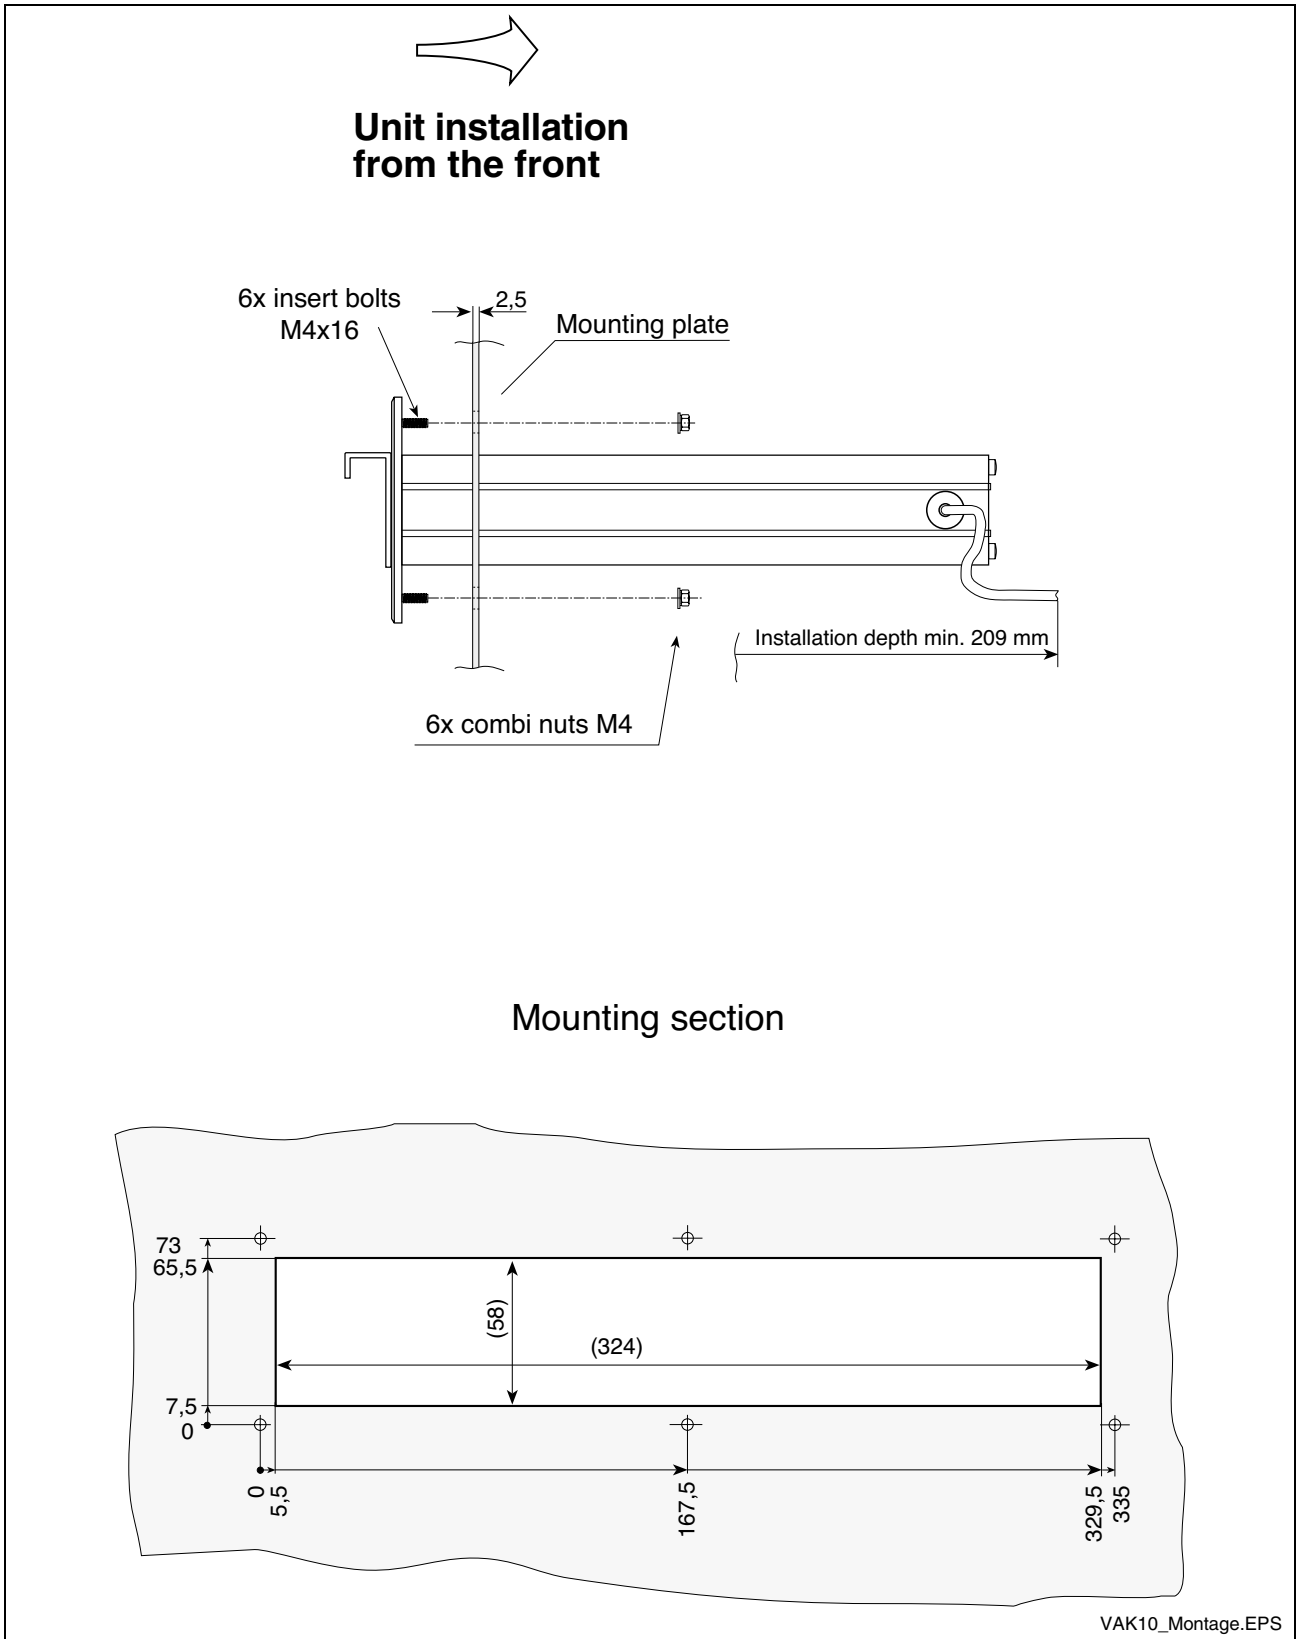

Fig. 7-3: Mounting dimensions VAK 10.1
- Fig. 7-3: Mounting dimensions VAK 10.1 7-3